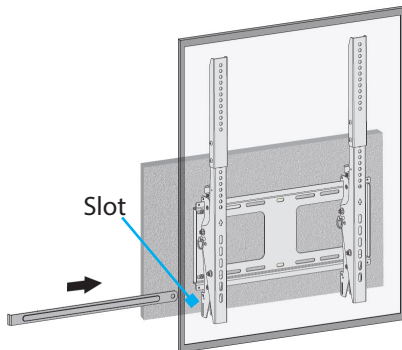

Figure 6
1. Slide the **Security Bar** through the slots at the base of the **Display Mounting Bracket Assemblies**. (Figure 6)